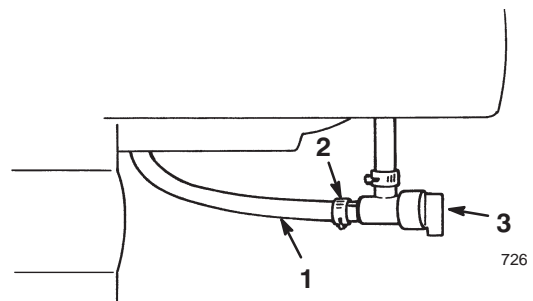

Figure 17
4. Open the fuel shutoff valve below the fuel tank (Fig. 17).
5. Close the fuel shutoff valve (Fig. 17).